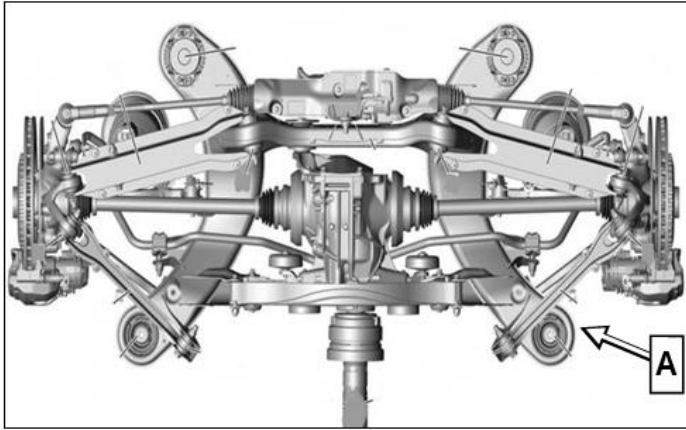

Figure 1 (Complete rear axle)
2. Replace rear axle carrier (A) (figure 1 and 2).